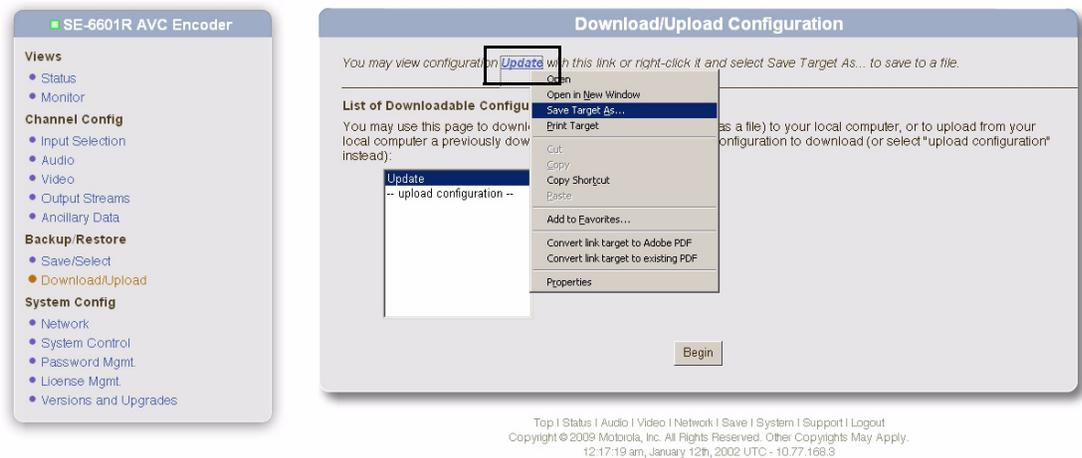

Figure 53: Save Menu
4. To download the configuration, right-click the hyperlink and click **Save Target As**. See Figure 53.